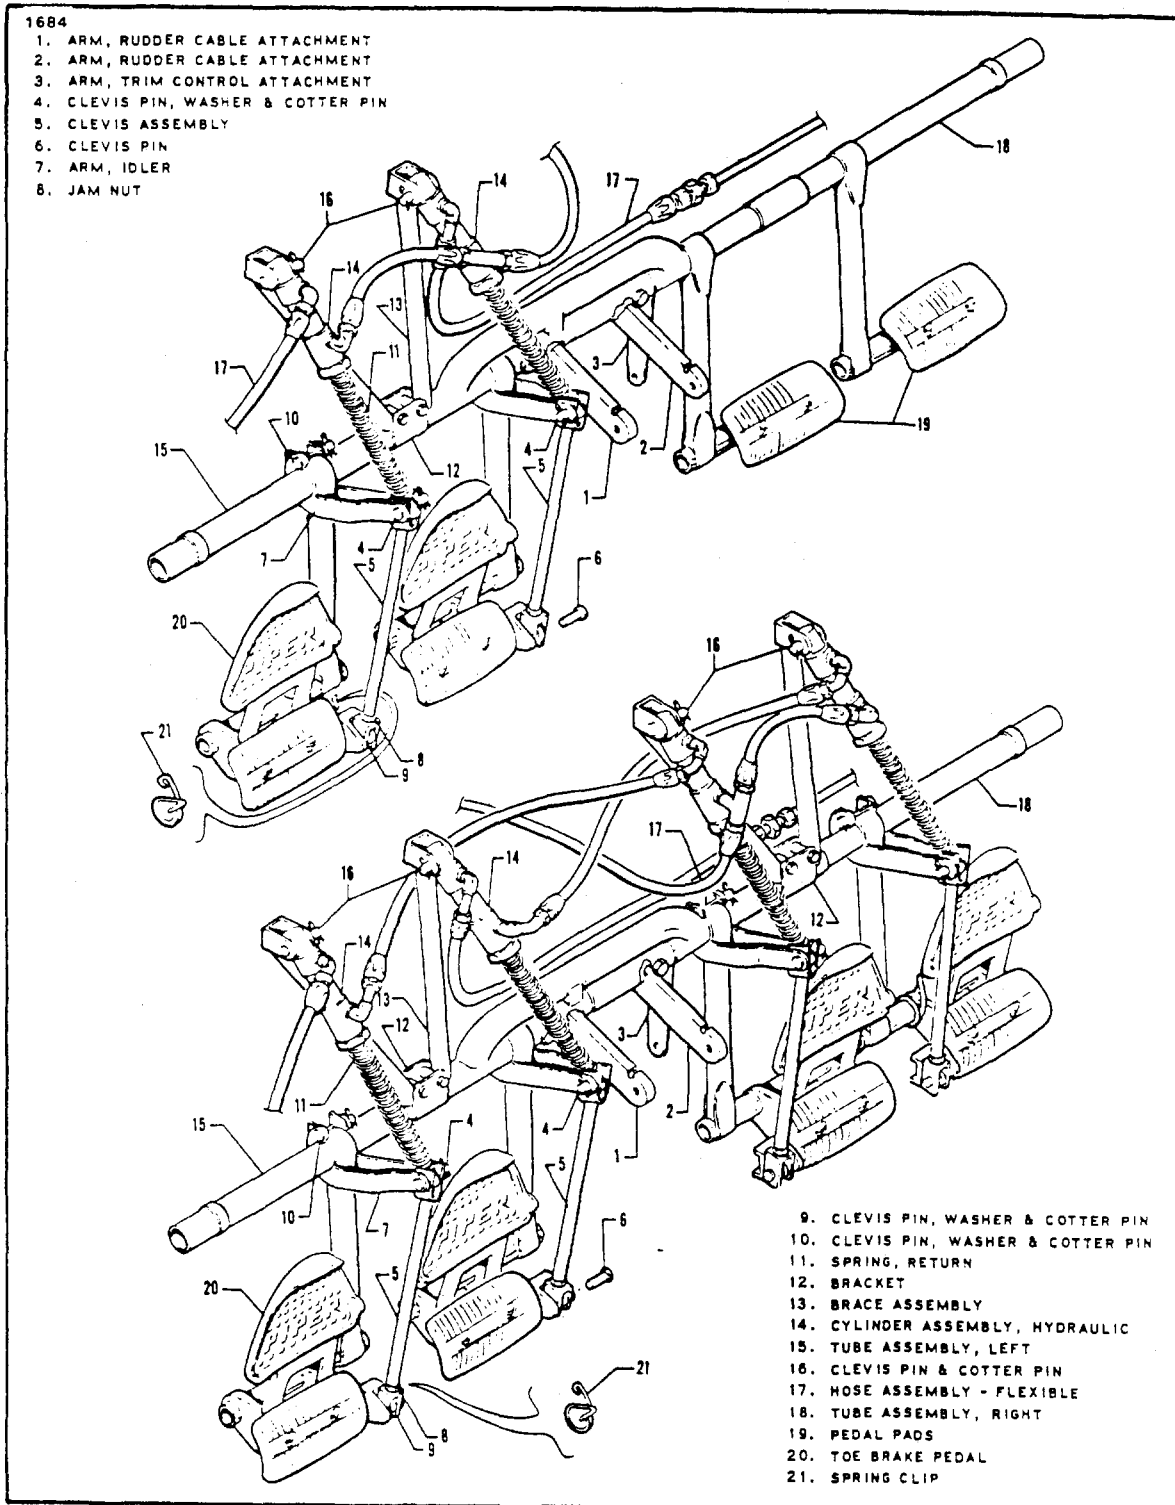

Figure 7A-21. Toe Brake Installation
7A-68. REMOVAL OF BRAKE CYLINDER. (Refer to Figure 7A-21.)
- a. Cleveland cylinder number 10-20. (Refer to Figure 7A-22.)
2. To disassemble the cylinder, first remove the piston rod assembly by unscrewing the packing gland (9) from the cylinder. Draw the piston rod assembly from the cylinder.
3. The piston rod assembly may be disassembled by first removing the small snap ring (2) securing the retainer bushing (3) and then removing the bushing, spring (4), piston (5), seal (7), gland (9), and, if desired, the large return spring (12).